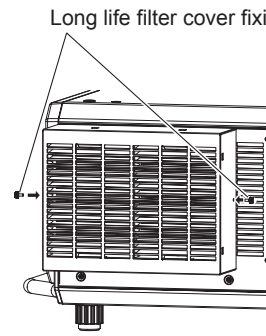

Fig. 2
- 2) **Secure the long life filter cover. (Fig. 2)**